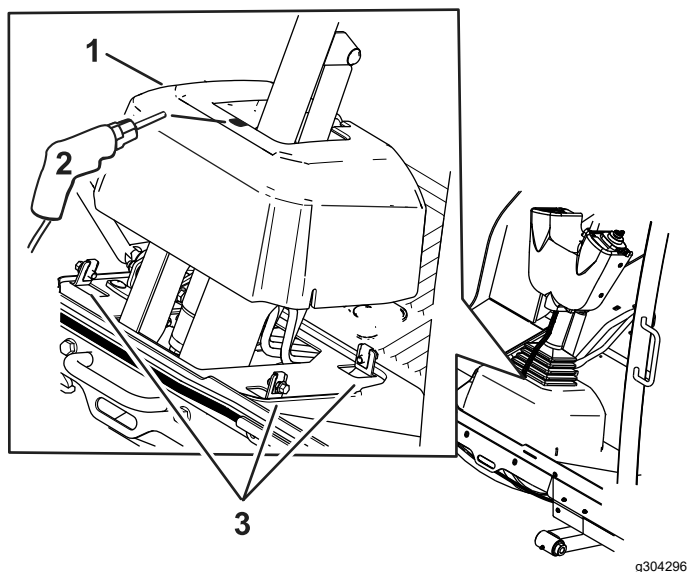

Figure 9
8. Loosen the bolts around the steering-column base (Figure 9).
9. Raise the base up and drill a 22 mm (7/8 inch) hole as shown in Figure 9.